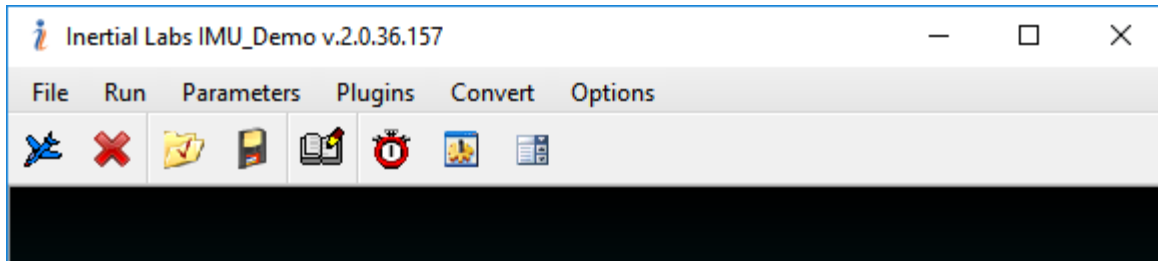
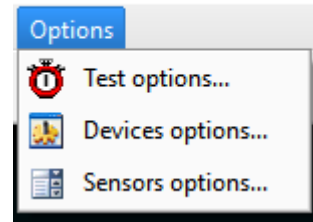

Fig.3.1
Fig.3.6
The main menu of the “Inertial Labs IMU Demo” software contains the following items (see Fig.3.1).
**Options** Menu contains the IMU configuration commands (Fig.3.6).
To set operational parameters of the IMU, COM port, and/or format of output data, select “**Test options...**” (Fig.3.6) from the “**Options**” menu (or click the  button).
To set and control IMU operation parameters, select “**Devices options...**” from the “**Options**” menu (Fig.3.6), or click the  button (Fig.3.1).
To set and control IMU sensors parameters, select “**Sensors options...**” from the “**Options**” menu (Fig.3.6), or click  button (Fig.3.1).